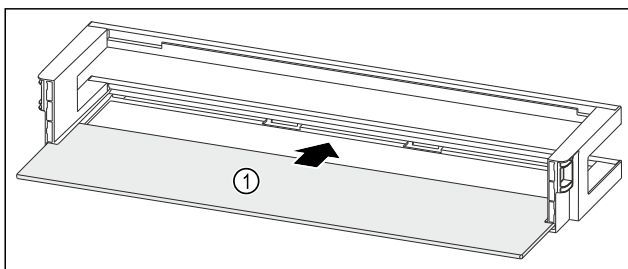

Fig. 97 Door rack with shelf
- Push the shelf Fig. 97 (1) into the side recesses.